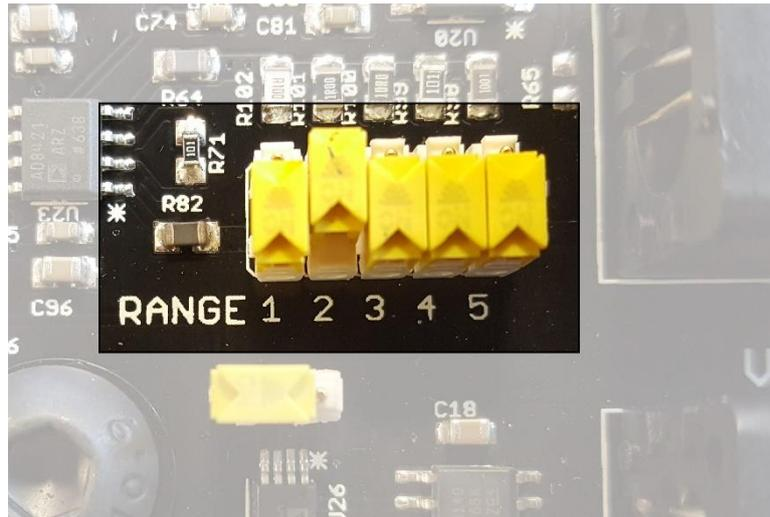

Figure 3.8. Manual range switches on the X100.
**Warning:** The range **must be set physically on the X100** using the 5 yellow switches next to the SMU being used (Figure 3.8), as well as being set in the program.